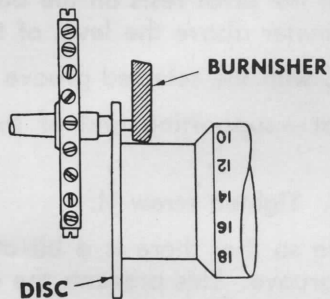

Fig. 10
1. Select a hole in the disc which will permit its chamfer to support the cone of the balance staff. Figure 10.